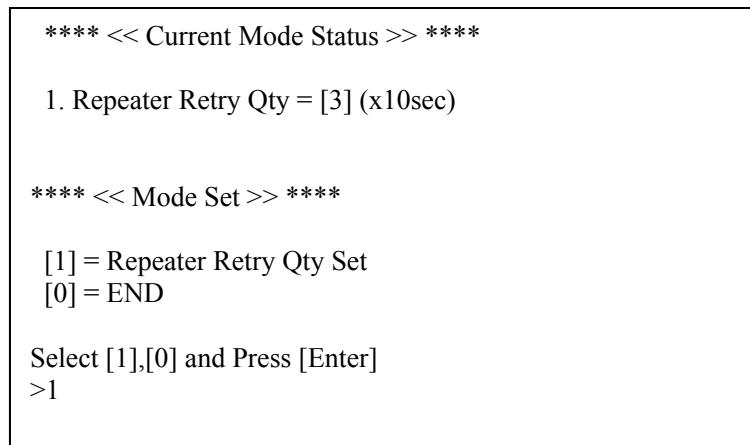

Fig.4-16 □ Setting for Transponder
- At this point when pushing **C** key within 5sec, the following screen (Fig.4-16) is displayed and Mode Set can be changed. Pushing **Enter** key terminates the setting.
□ Setting of Transponder Re-try number of times (Select [□] in Fig.4-16)